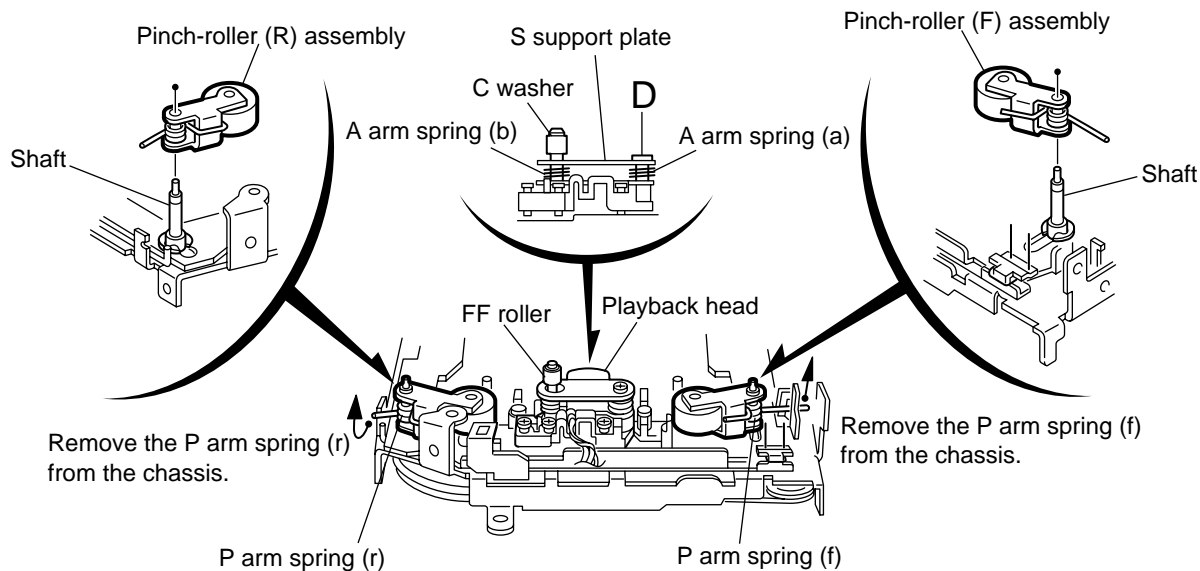

Fig.2
### ■ Removing the playback head (See Fig.2)
### ■ Removing the pinch-roller (R) and (F) assembly (See Fig.2)
1. Remove the **P** arm spring (f) in the pinch-roller (F) assembly from the chassis.
2. Remove the **P** arm spring (r) in the pinch-roller (R) assembly from the chassis.
3. Draw out the pinch roller (F) and (R) assembly from the shaft.